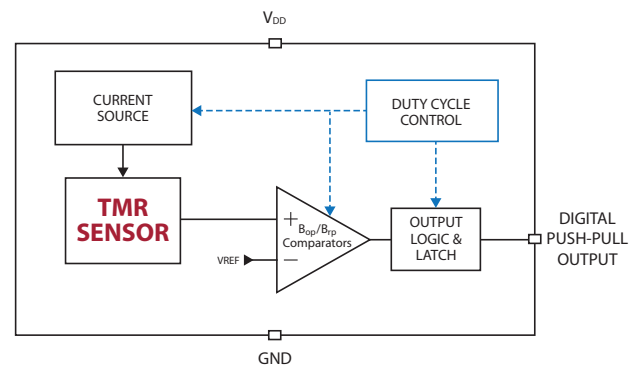
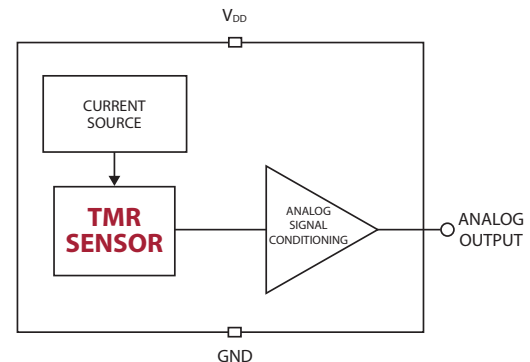

Figure 1: Functional block diagram of a RedRock® digital TMR sensor with push-pull output
Figure 2: Functional block diagram of a RedRock® analog TMR sensor
Digital sensors turn ON when the magnitude of the magnetic field (B) surrounding them exceeds a threshold value defined as B_{OP} , and turn OFF when the field drops below a second threshold defined as B_{RP} . The threshold levels are set using comparator circuits and are fixed for a specific product family. Typical levels are $B_{OP} = 30$ Gauss and $B_{RP} = 20$ Gauss, or $B_{OP} = 9$ Gauss and $B_{RP} = 5$ Gauss. On the other hand, analog sensors do not have internal threshold comparators, and instead provide a voltage output signal which is linearly proportional to the applied magnetic field over a defined range of field magnitude. The functional block diagrams of digital and analog sensors are shown in Figure 1 and Figure 2 respectively.